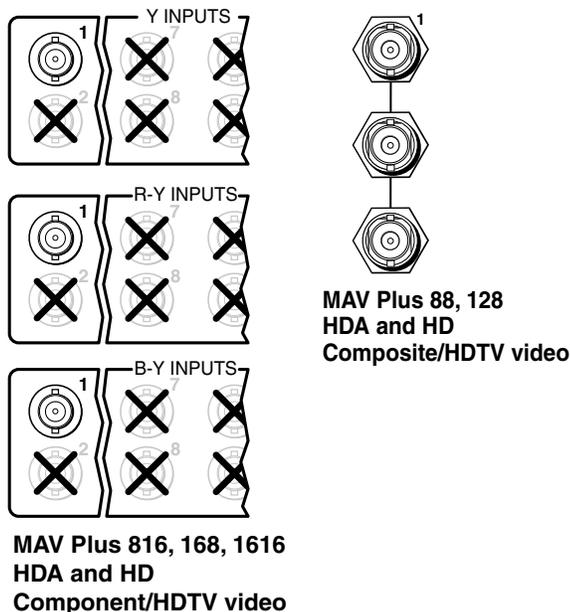
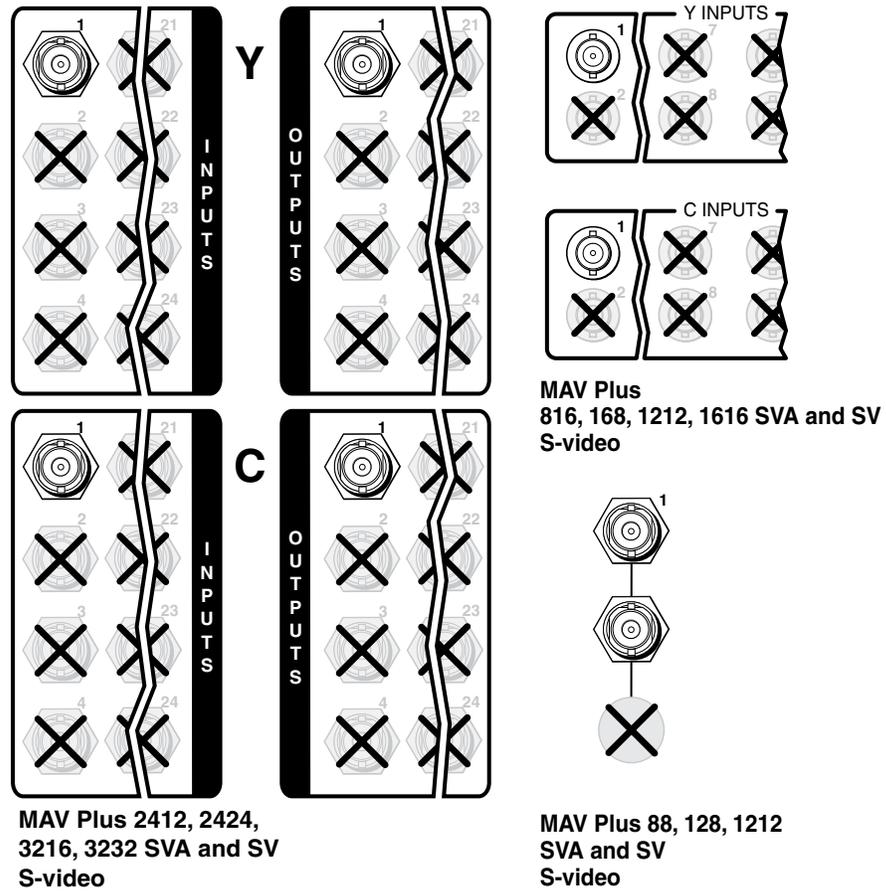

Figure 2-13 — MAV Plus component/HDTV video connections
Figure 2-14 — MAV Plus S-video connections
NOTE The connectors for each video plane are grouped together (for example, for component/HDTV switchers, all of the Y inputs grouped together, all of the R-Y inputs grouped, and so on). Ensure that you connect the input on each video plane to the corresponding connector in the correct group (figure 2-13, through figure 2-15, below and on the next page).
- ① **Video inputs** — Connect component/HDTV video (figure 2-13), S-video (figure 2-14), or composite video (figure 2-15) inputs, as applicable, to these BNC connectors for each input.
- ② **Video outputs** — Connect component/HDTV video (figure 2-13), S-video (figure 2-14), or composite video (figure 2-15) displays, as applicable, or other devices to these BNC connectors for each output. Figure 2-15 shows how to connect the various video formats to each MAV Plus configuration.
NOTE The S-video (figure 2-14) and composite video (figure 2-15) connection drawings are all on the next page.